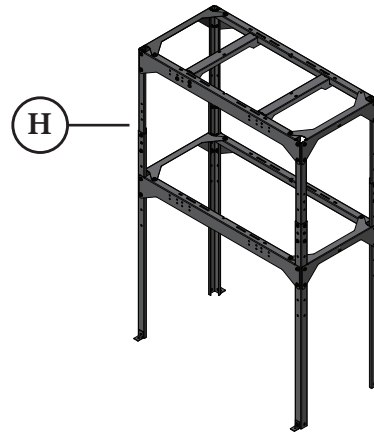

FIG. 1
Assemble the Stand (H) [FIG. 1] by referring to the included instruction sheet: